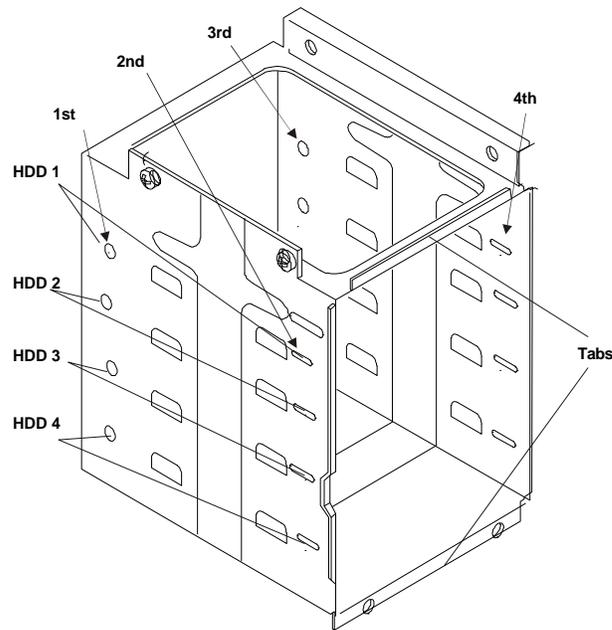

Figure 4-4. Hard Disk Drive Cage Screw Holes
9. Install the screws that secure the drive (or the shelf or the brackets) to the mass storage cage. First, attach one of the screws through the round screw hole at the rear of the cage, then through the elongated hole at the front of the cage. Repeat on the other side of the cage (see Figure 4-4).